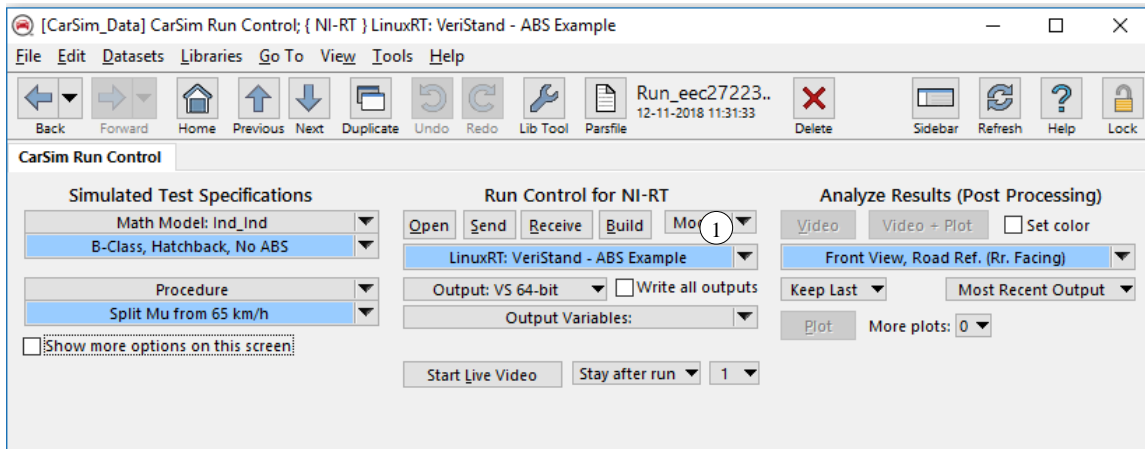
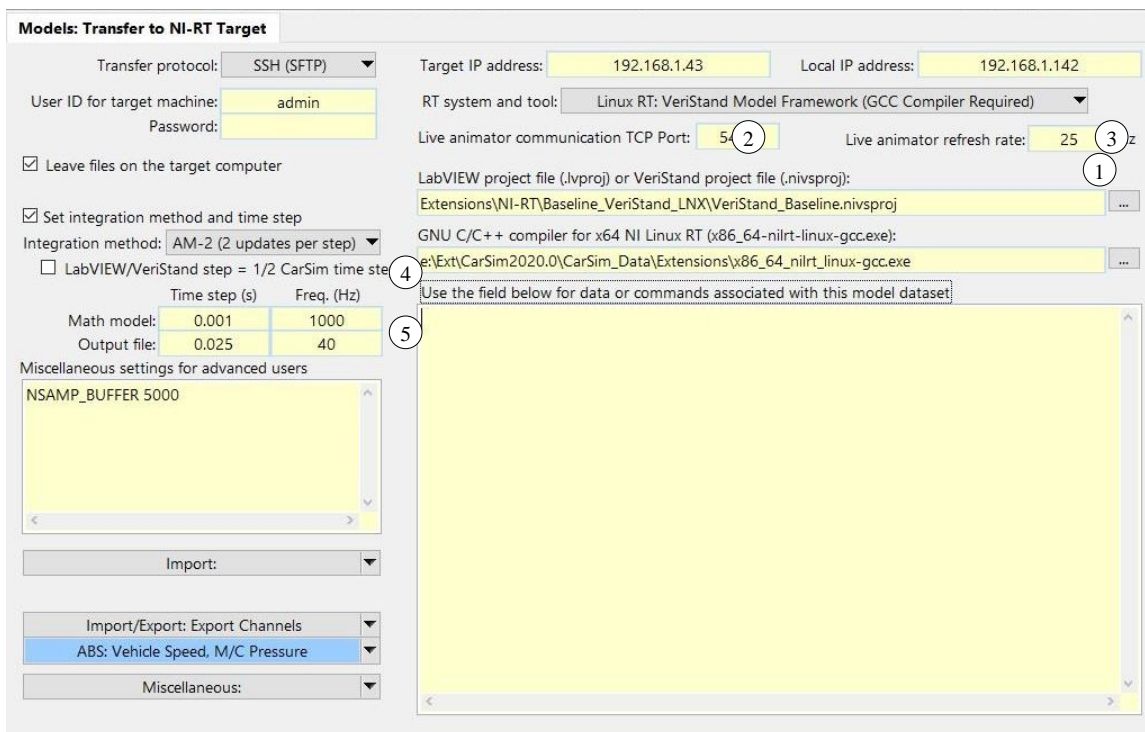

Figure 32. LinuxRT: VeriStand - ABS Example.
Figure 33. ABS Example Simulink Model for NI RT.
2. From the **Run Control** screen, use the **Dataset** menu and select **NI-RT > LinuxRT: VeriStand – ABS Example** (Figure 32). Click the dropdown menu of **Models** and confirm that **Models: Transfer to NI-RT Target** is selected.
3. Confirm that the Models blue link is set to `LinuxRT: VeriStand – ABS Example` (1) (Figure 32). Click the blue link to view the linked dataset for the NI-RT model (Figure 33).
4. Select `Linux RT: VeriStand Model Framework (GCC Compiler Required)` from the **RT System and Tool** pull-down list (1) (Figure 33). Make sure **Target ID or IP address** (2), **Local (host) IP address** (3), **VeriStand Project File (.nivproj)** (4), and **GNU C/C++ Compiler (Eclipse)** (5) are set correctly. If you do not have the GNU C/C++ Compiler (Eclipse), you must download it from the National Instrument website.